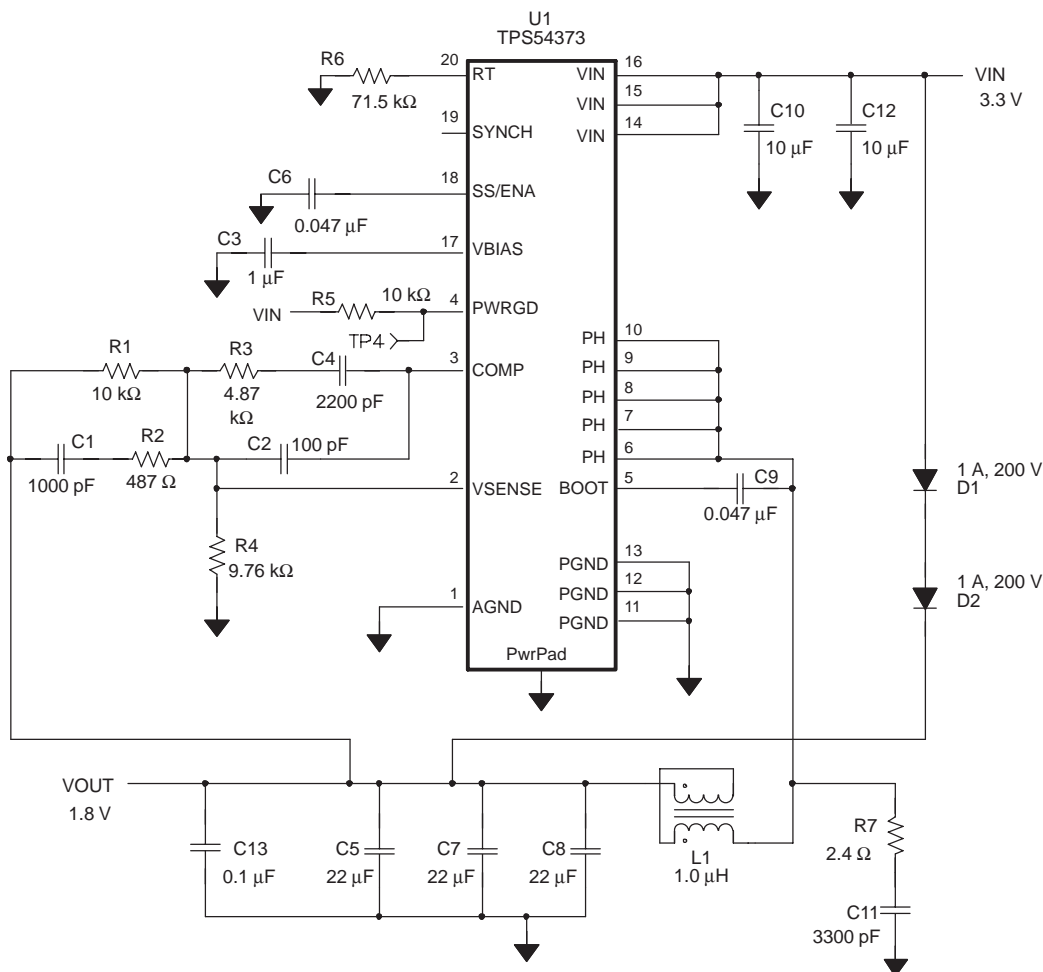
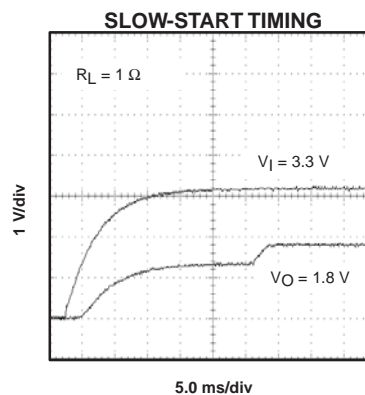

Figure 10. Application Circuit
Figure 19
(1) Specified by design
(2) Static resistive loads only
(3) Specified by the circuit used in Figure 10
⁽³⁾ Specified by the circuit used in Figure 10
Figure 10 shows the schematic diagram for a typical TPS54373 application. The TPS54373 (U1) can provide up to 3 A of output current at a nominal output voltage of 0.9 V to 3.3 V, and for this application, the output voltage
Data shown is for the circuit in Figure 10 with precharge disabled (D1 and D2 removed) except for slow-start timing of Figure 19. All data is for $V_I = 3.3$ V, $V_O = 2.5$ V, $f_s = 700$ kHz and $T_A = 25^\circ\text{C}$, unless otherwise specified.